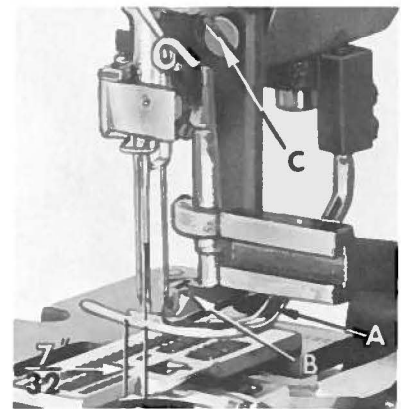
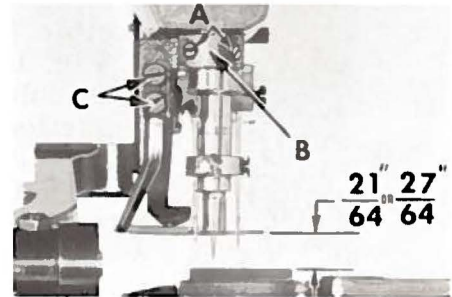

Fig. 11
Fig. 12
With the needle bar in its up position, and the spreader (A, Fig. 11) at the left end of its stroke, the upper spreader point should extend  $7/32$  inch to the left of the center line of the center needle. This is accomplished by loosening screws (A, Fig. 12) and rotating spreader holder (B) to position the upper spreader point. Retighten screws.
**CAUTION:** The spreader holder is also the lower thrust collar for the spreader shaft, so when tightening screws (A, Fig. 12) be sure to push down on the spreader shaft and up on the spreader holder.
The spreader should clear the left needle shank by  $1/64$  to  $1/32$  inch on all machine Styles. The bottom of the spreader should be  $21/64$  inch above the throat plate on machine Styles 57900 F, G, H and  $27/64$  inch above the throat plate on machine Style 57900 N (Fig. 12). Adjustment can be made by loosening screws (C, Fig. 12) and position spreader as required.
The left edge of the spreader thread guide (B, Fig. 11) should clear the right needle by approximately  $\frac{3}{32}$  inch and be kept close to the top of the spreader. This can be accomplished by loosening screws (C) and moving the guide as necessary.